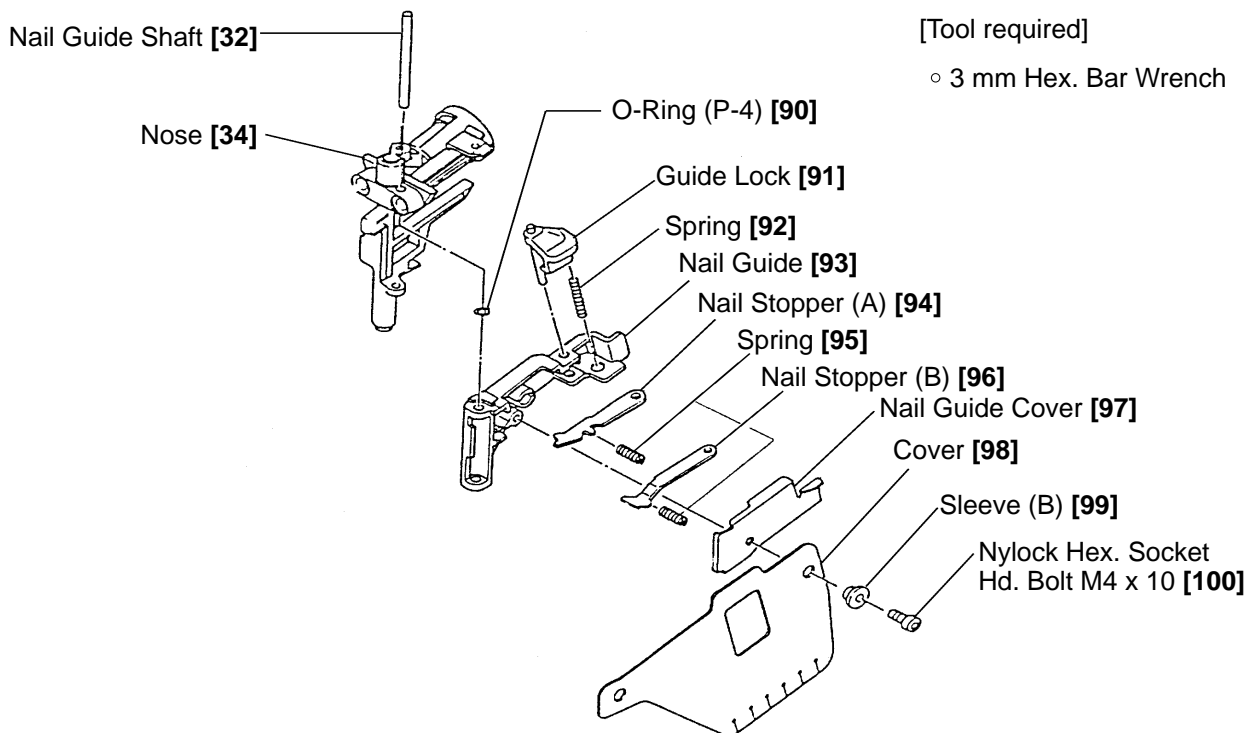

Fig. 19 Disassembly and reassembly of the nail guide
(3) Disassembly and reassembly of the Nail Guide [93] (See Fig. 19)